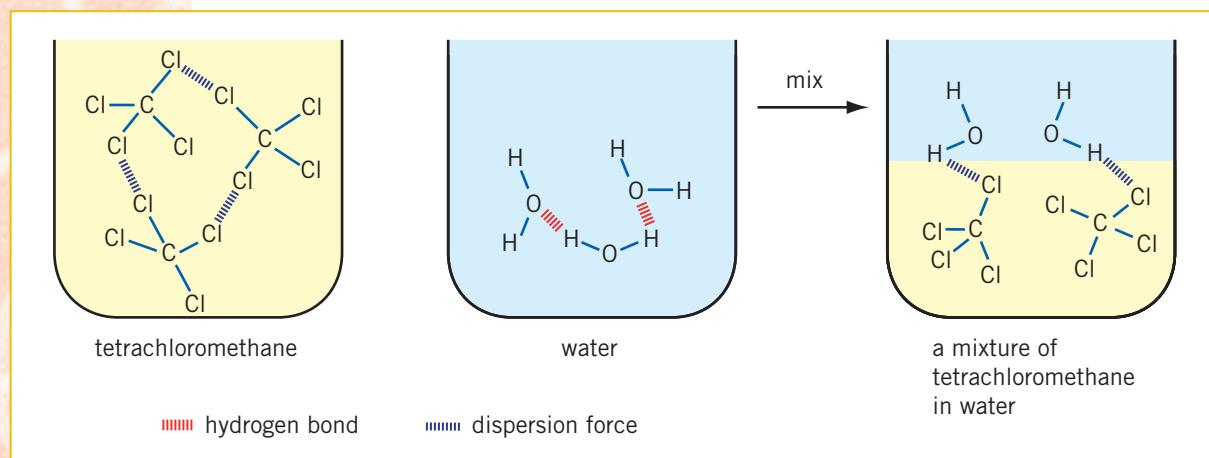

Figure 4.6 Tetrachloromethane does not dissolve in water.
- The bonds that will need to be broken during dissolving are the dispersion forces between the tetrachloromethane molecules and hydrogen bonds between the water molecules (Figure 4.6).